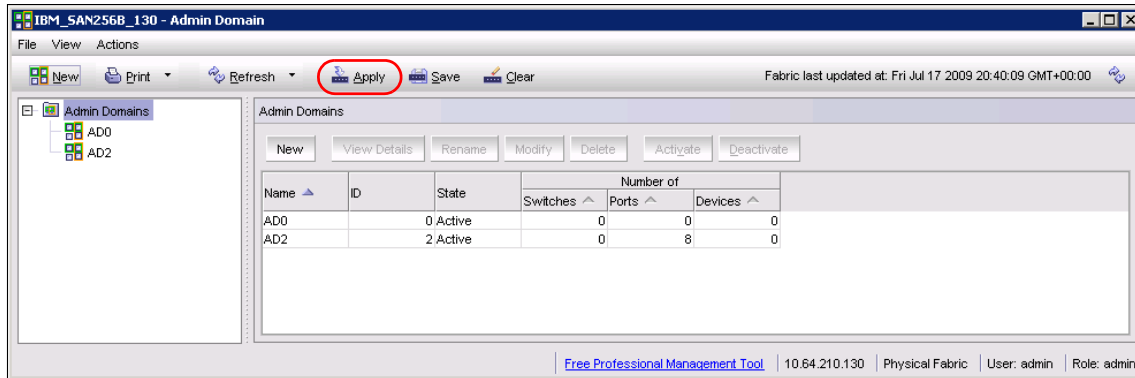

Figure 8-43 New Admin Domain AD2
5. The new Admin Domain AD2 is created and displays in the Admin Domain window (Figure 8-43). However, you need apply the AD configuration by clicking **Apply** icon to make the new Admin Domain effective.